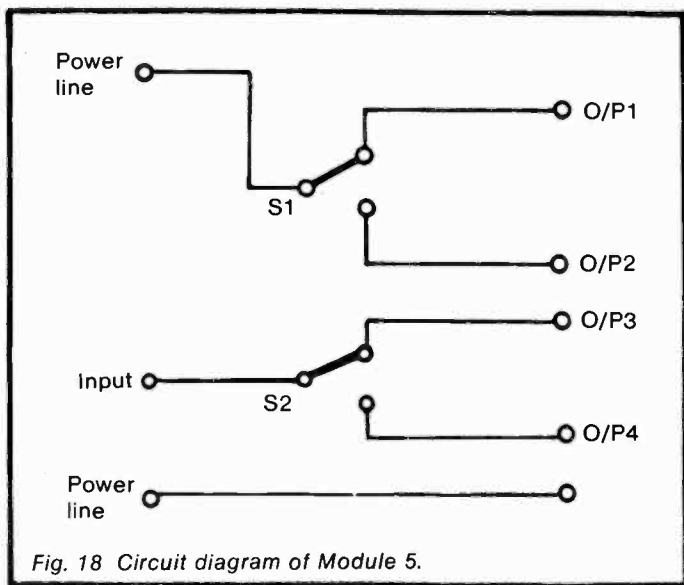

Fig. 18 Circuit diagram of Module 5.
*Circuit diagrams:* see Figure 18.